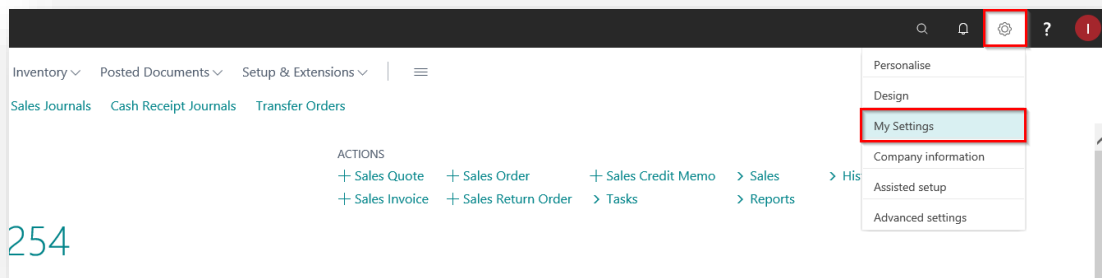

Figure 4-6
1. From your Dynamics 365 Business Central Web Client, in the app bar, select the **Settings** icon and then select **My Settings** (Figure 4-6).